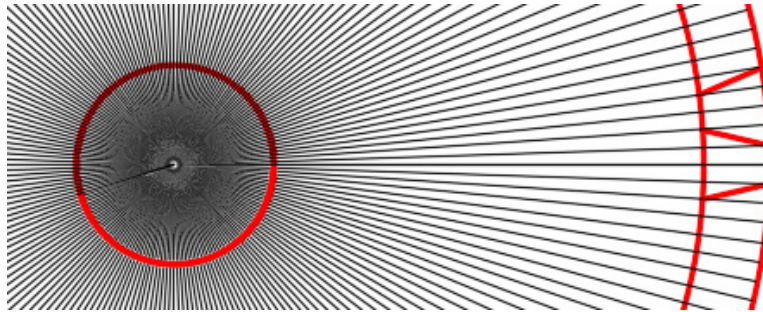

Figure Step 6
Step 6 On layer: Model, draw two gear teeth by drawing lines from the intersection of the lines and the circles. (Figure Step 6)